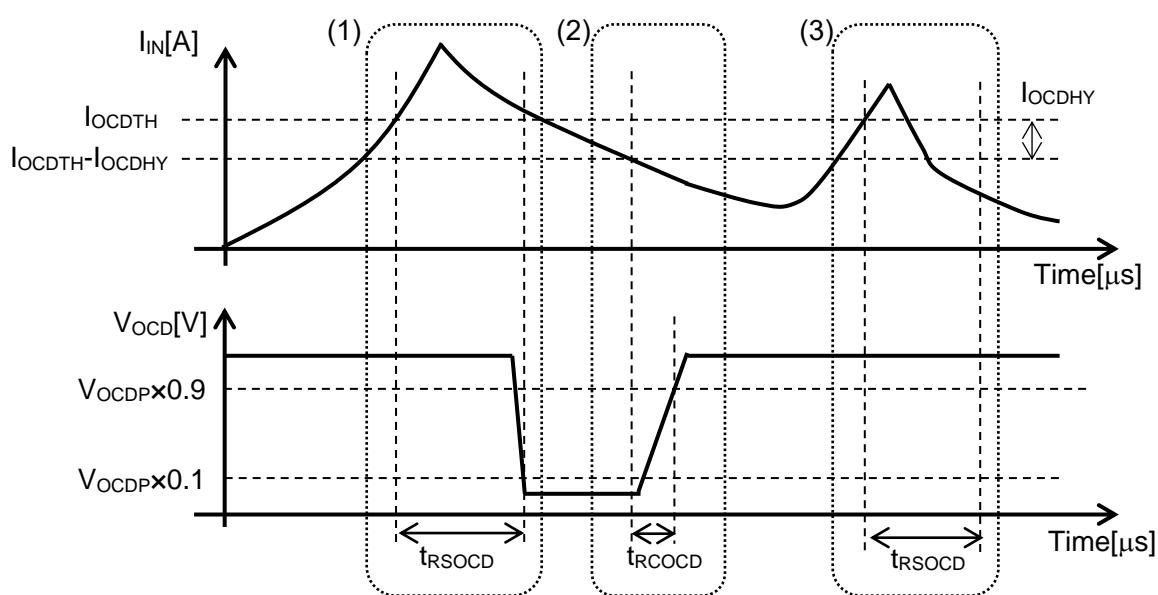

Figure 6. Overcurrent Detection Function of CZ-3AG7
10.4. Overcurrent Detection Function is operated as below. (See figure 6.)